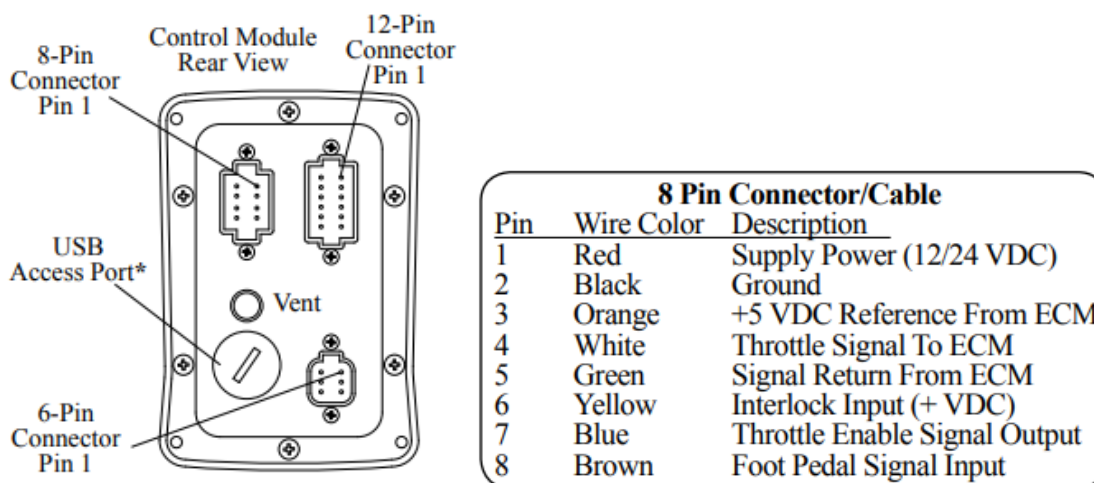

Figure 5.1
- 1) Connect the power wire from the alarm to Pin 1 on the 8-pin governor connector. See Figure 5.1